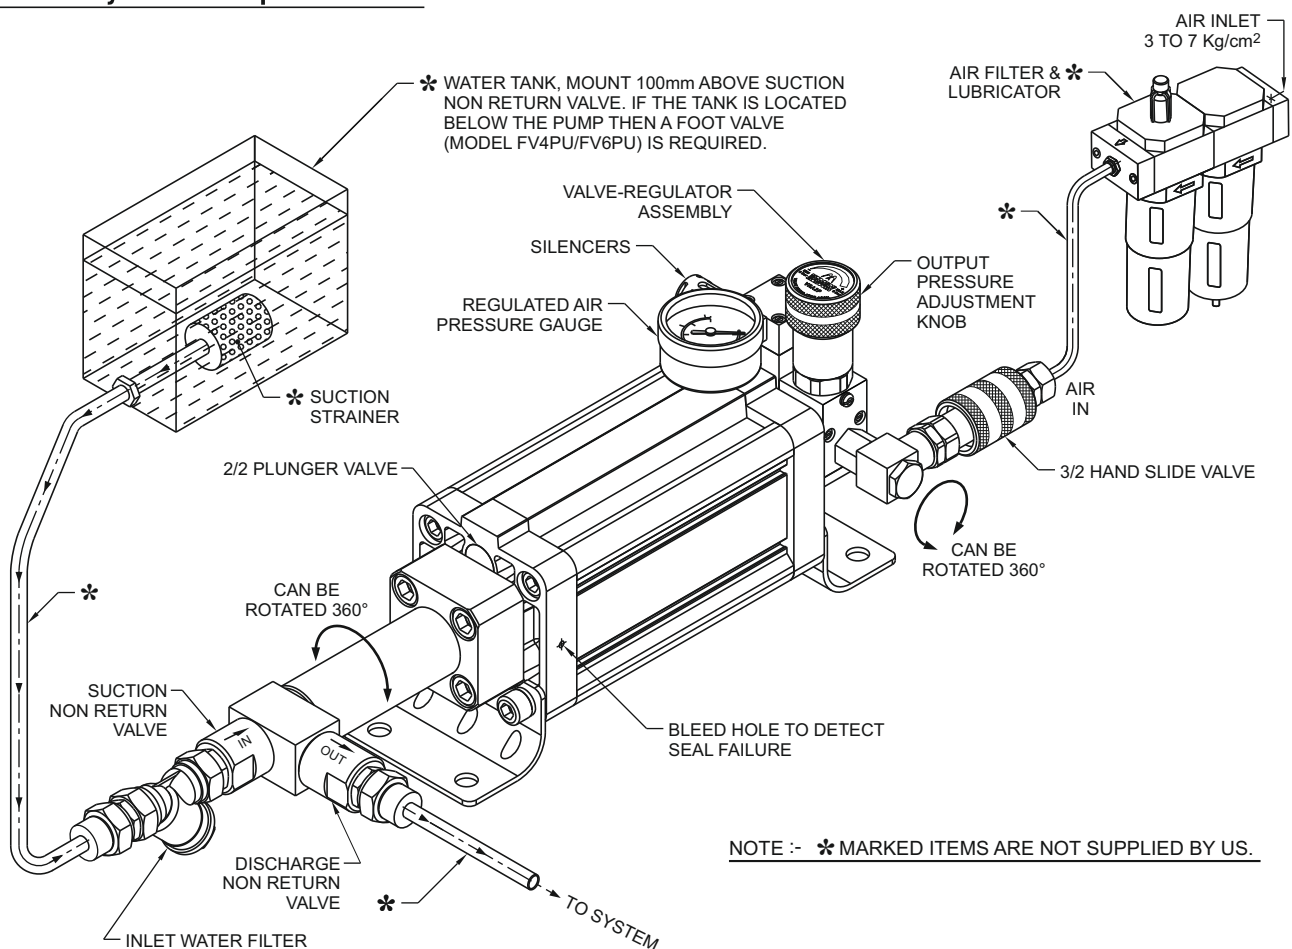
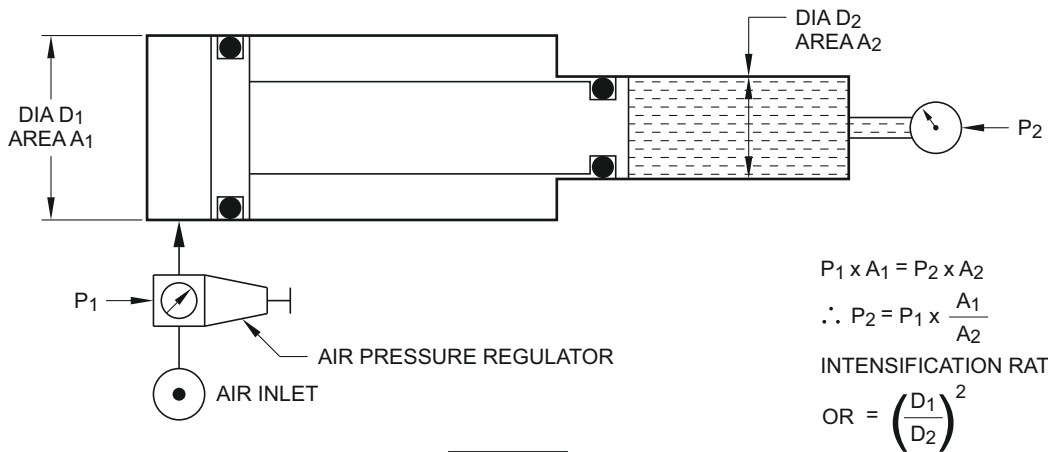
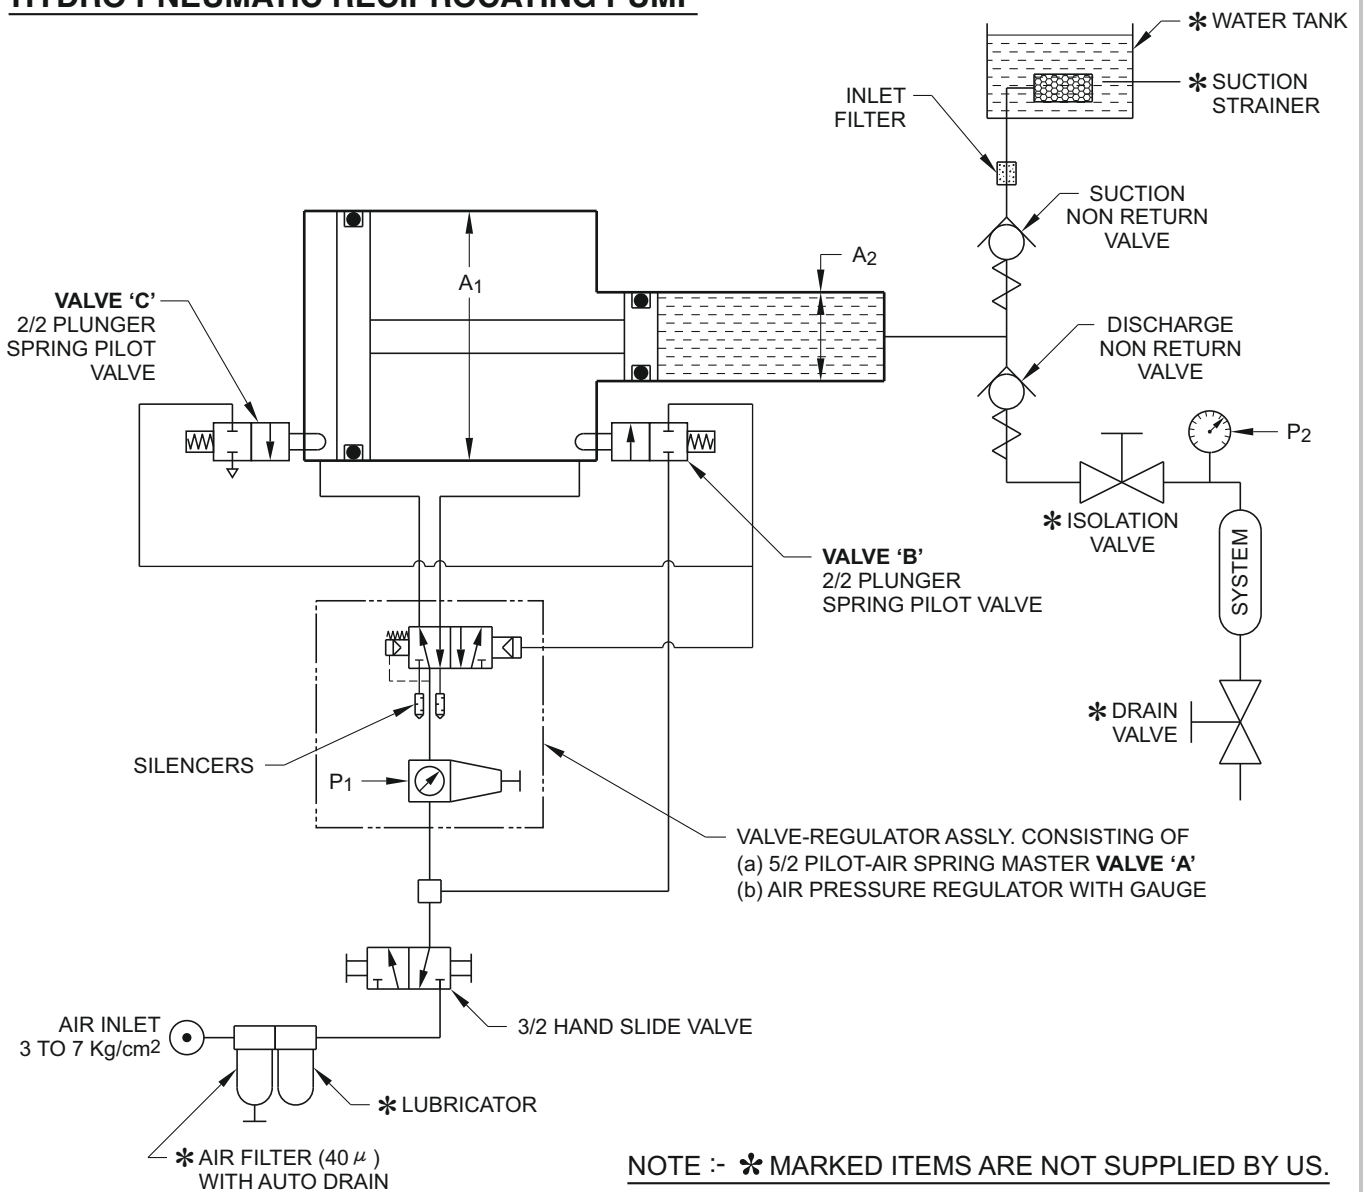

FIG. 1
FIG. 2
FIG. 3
1.1 The general layout of components used for proper installation of our Hydro Pneumatic Reciprocating Pump is shown in **Fig.1**. The principle of operation is given in **Fig. 2 and Fig. 3**.
1.3.1 The heart of “**MERCURY**” pumps is an air to liquid Intensifier or Booster which is diagrammatically shown in **Fig. 2**.
The air to liquid intensifier shown in **Fig. 2** is converted into a pump by automatically reciprocating the pneumatic cylinder by suitable valves as shown in **Fig. 3**.